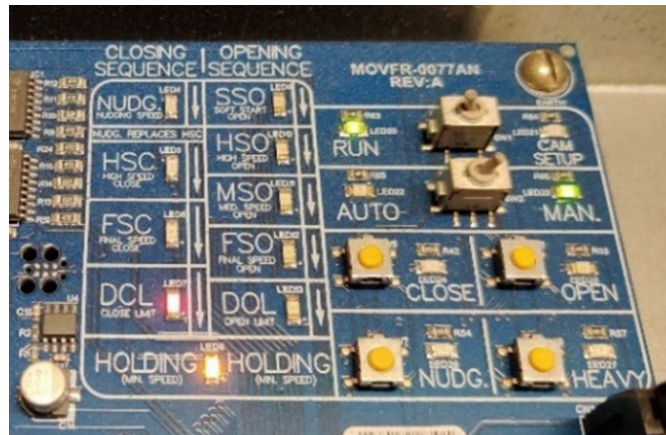

Figure 25: DCL LED
7. Remove the cover and the contact assembly, as shown in **Figure 25**.